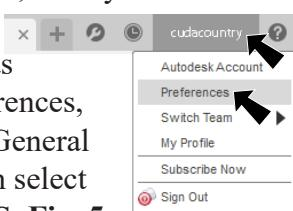
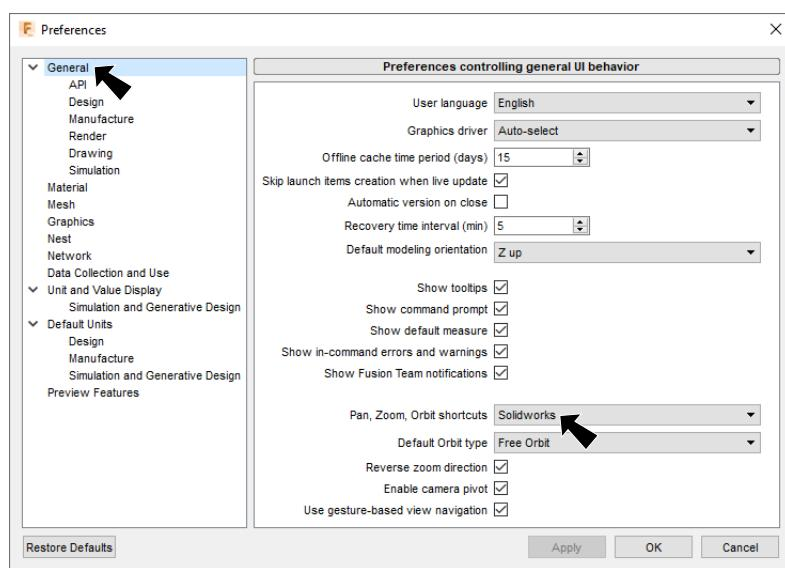

Fig. 4
Fig. 5
**Tip:** Set zoom shortcuts to SOLIDWORKS. To set, click your name in top right corner of canvas and click Preferences, Fig. 4. On the General Tab, Pan, Zoom select SOLIDWORKS, Fig. 5.